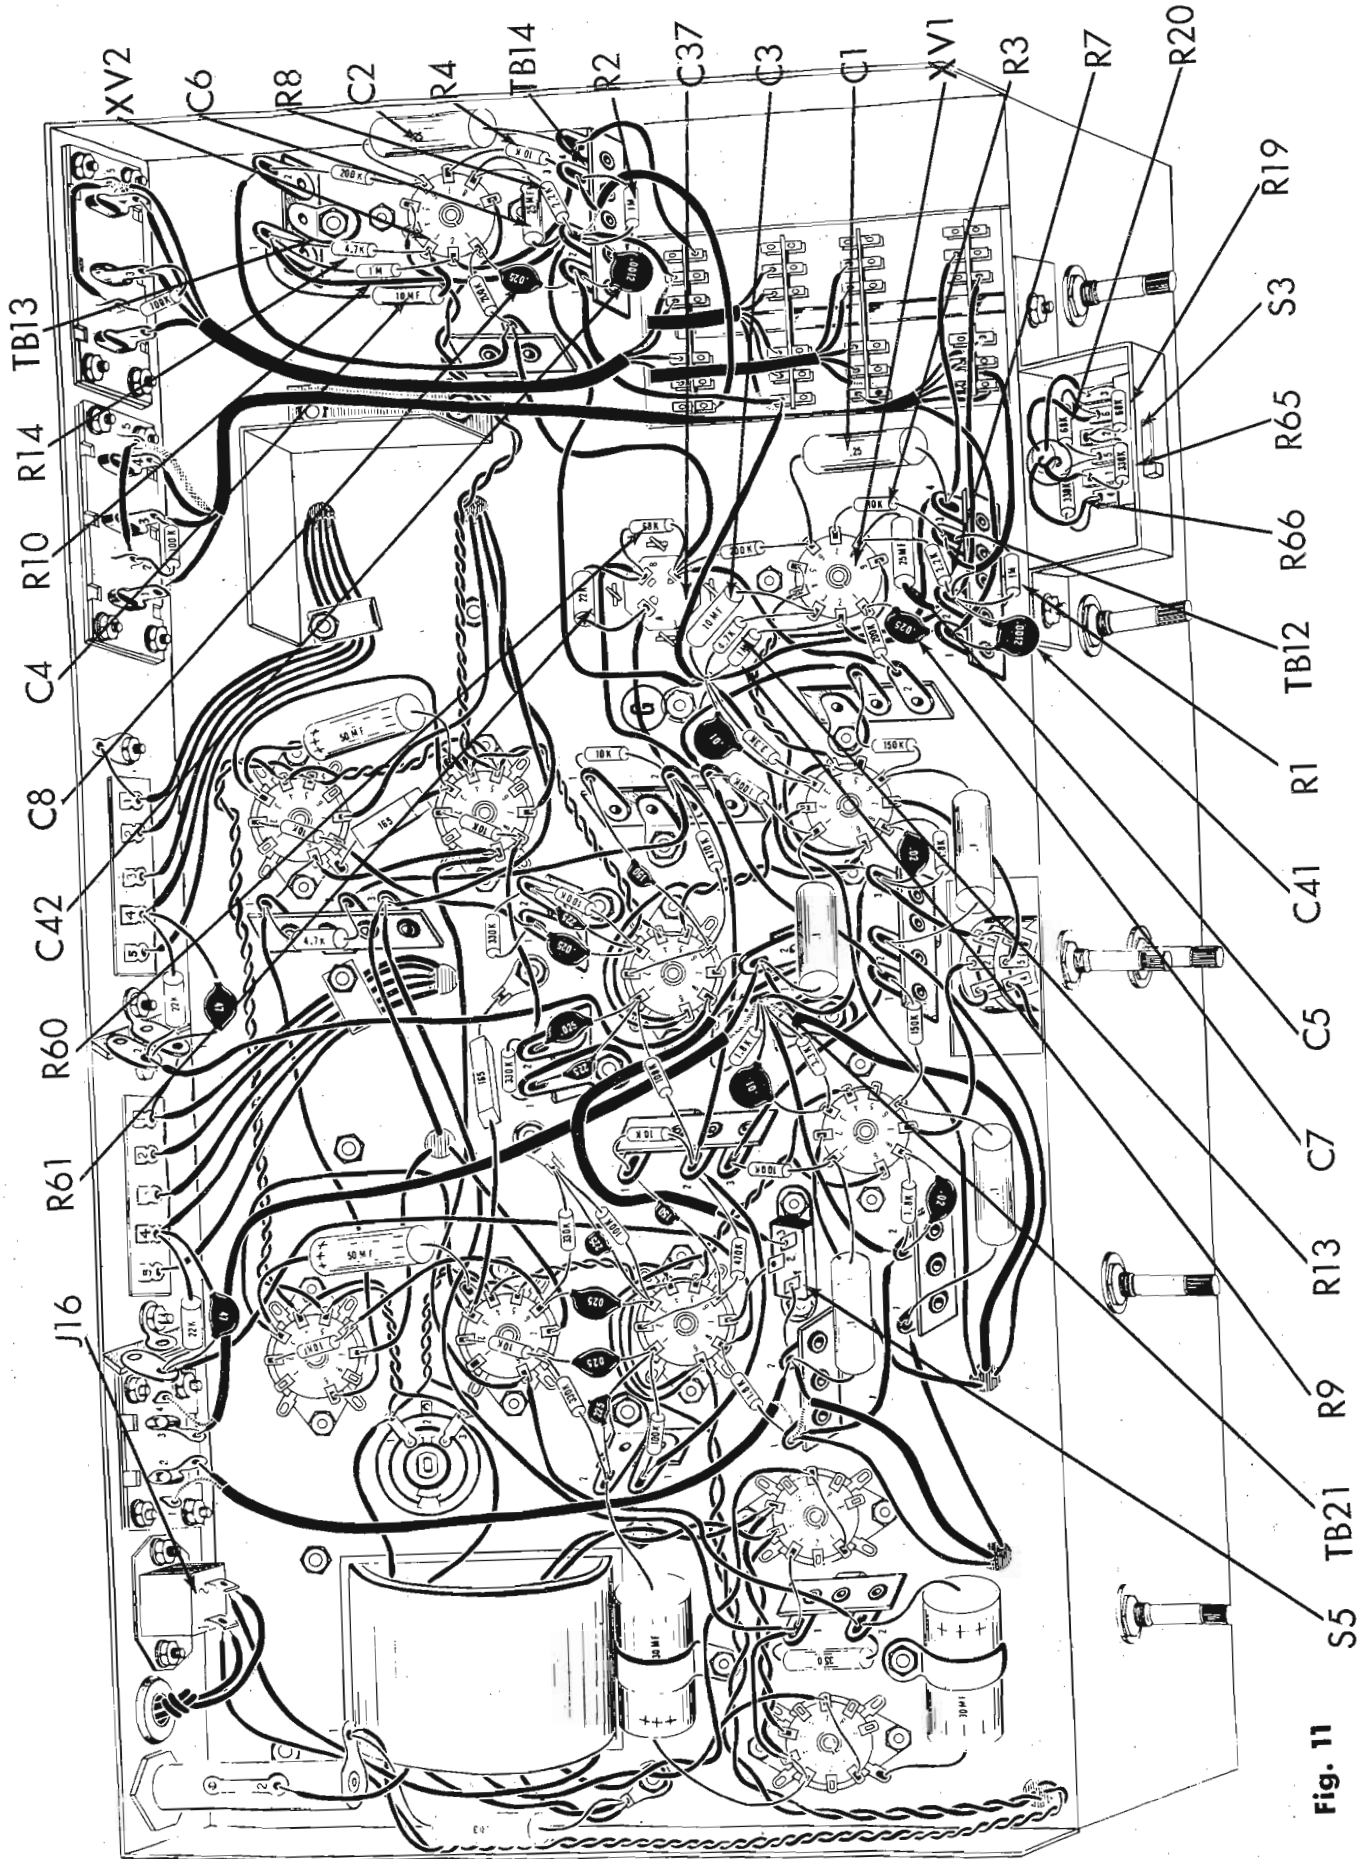

Fig. 11
1. (✓) Fig. 11. Cut all leads on two 25 mfd electrolytic capacitors, C5 and C6, to 1" and cover each with a 3/4" piece of spaghetti. Connect the positive (+) end of C5 to XV1-8 (C) and the negative (-) end to TB12-2 (C). Connect the positive (+) end of C6 to XV2-8 (C) and the negative (-) end to TB14-2 (C).
2. (✓) Fig. 11. Cut all leads on two 2.2KΩ (red, red, silver) resistors, R7 and R8, to 3/4" and cover each lead with a 1/2" piece of spaghetti. Connect R7 from XV1-8 (S2) to TB12-2 (C). Connect R8 from XV2-8 (S2) to TB14-2 (C).
3. (✓) Fig. 11. Cut the ground end (if the capacitor is so marked with a line) of two .25 mfd paper capacitors, C1 and C2, to 1". (If it is not marked, cut either end to 1".) Connect this end of C1 to XV1-6 (S2) and this end of C2 to XV2-6 (S2). Cut the other end of both capacitors to 3/4". Connect this end of C1 to TB12-4 (S3) and this end of C2 to TB14-4 (S3).
4. (✓) Fig. 11. On two 10KΩ (brown, black, orange, silver) resistors, R3 and R4, cut one lead to 1/2" and the other lead to 3/4". Connect the 1/2" lead of R3 to XV1-7 (S1) and the 3/4" lead to TB12-3 (C). Connect the 1/2" lead of R4 to XV2-7 (S1) and the 3/4" lead to TB14-3 (C).
5. (✓) Fig. 11. Cut both leads on two 1MΩ (brown, black, green, silver) resistors, R1 and R2, to 1/2". Connect R1 from TB12-3 (S3) to TB12-2 (C). Connect R2 from TB14-3 (S3) to TB14-2 (C).
6. (✓) Fig. 11. Cut all leads on two .0012 mfd (1.2K or 1200 mmf) disc capacitors, C41 and C42 to 1/2". Connect C41 from TB12-1 (C) to TB12-2 (S7). Connect C42 from TB14-1 (C) to TB14-2 (S8).
7. (✓) Fig. 11. Cut all leads on two .025 mfd (25K or 25,000 mmf) disc capacitors, C7 and C8, to 3/4". Connect C7 from XV1-1 (S2) to TB12-1 (S3). Connect C8 from XV2-1 (S2) to TB14-1 (C).
8. (✓) Fig. 11. Cut all leads on two 10 mfd, 6 volt electrolytic capacitors, C3 and C4, to 3/4". Cover each lead with a 1/2" piece of spaghetti. Connect the positive (+) end of C3 to XV1-3 (C) and the negative (-) lead to ground lug "G" (C). Connect the positive (+) end of C4 to XV2-3 (C) and the negative (-) lead to TB13-1 (C).
9. (✓) Fig. 11. Cut both leads on one 4.7KΩ (yellow, violet, red, silver) resistor, R14 to 1/2" and both leads on a second 4.7KΩ resistor, R13, to 3/4". Connect R14, (with the shorter leads) from XV2-3 (S2) to TB13-1 (C). Connect R13 (with the longer leads) from XV1-3 (S2) to ground lug "G" (C).
10. (✓) Fig. 11. Cut all leads on two 1MΩ (brown, black, green, silver) resistors, R9 and R10, to 3/4". Cover both leads with a 1/2" piece of spaghetti. Connect R9 from XV1-2 (S2) to ground lug "G" (C). Connect R10 from XV2-2 (S2) to TB13-1 (S4).
11. (✓) Fig. 11. Cut both leads on a 22KΩ (red, red, orange, silver) 1 watt resistor, R61 to 3/4". Connect from C37-A (S2) to C37-B (C).
12. (✓) Fig. 11. Cut both leads on a 68KΩ (blue, grey, orange, silver) resistor, R60, to 1/2". Connect from C37B (S3) to C37C (S4).
13. () Fig. 11. Cut all leads on two 68KΩ (blue, grey, orange, silver) resistor, R19 and R20 to 1/2". Connect R19 from S3-2 (C) to S3-3 (C). Connect R20 from S3-5 (C) to S3-6 (C).
15. (✓) Fig. 11. From hole "S" connect the white lead to S3-6 (S2), the brown lead to S3-4 (S2), the blue lead to S3-3 (S2) and the green lead to S3-1 (S2).
17. (✓) Fig. 11. Connect the brown lead from S1F-8 to TB14-1 (S3).
18. (✓) Fig. 11. Connect the black lead from S1F-6 to ground lug "G" (S9).
19. (✓) Fig. 11. Connect a 1" piece of bare wire from S5-2 (S1) to XV5-7 (S1).
20. () Fig. 11. Strip back the outer insulation on both ends of a 5" piece of single-conductor cable 1/2". Twist the shield strands. Strip back the insulation on the inner conductor on both ends 1/4". On one end, cut the shield strands and connect the inner conductor to S5-3 (S1). On the other end, connect the twisted shield strands to TB21-1 (S8) and the inner conductor on the same end to TB21-2 (S5).
21. () Fig. 11. Mount the top shield as shown in insert on figure 4. Use two #6 lockwashers and two #6-32 hex nuts.